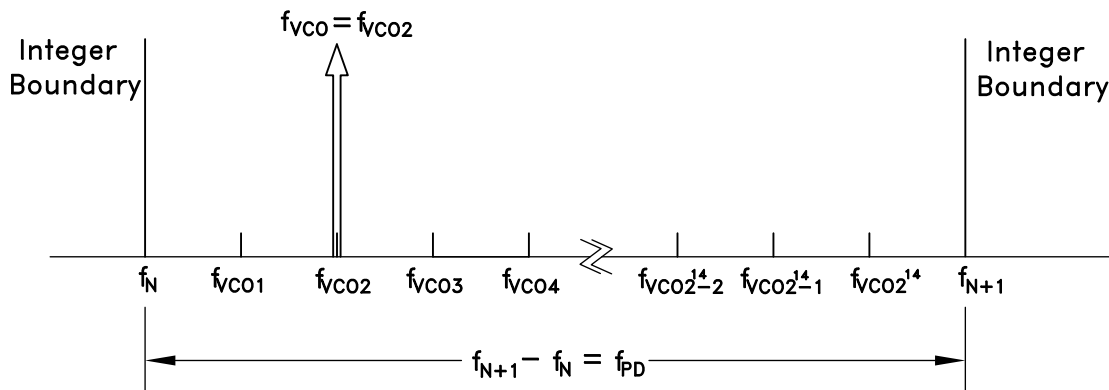

Figure 44. Exact Frequency Tuning
and f_{VCOk} are the channel step frequencies where $0 < k < 2^{24}-1$, As shown in Figure 44.
Some fractional PLLs are able to achieve this by adjusting (shortening) the length of the Phase Accumulator (the denominator or the modulus of the Delta-Sigma modulator) so that the Delta-Sigma modulator phase accumulator repeats at an exact period related to the interval frequency ($f_{VCOk} - f_{VCO(k-1)}$) in Figure 44. Consequently, the shortened accumulator results in more frequent repeating patterns and as a result often leads to spurious emissions at multiples of the repeating pattern period, or at harmonic frequencies of $f_{VCOk} - f_{VCO(k-1)}$. For example, in some applications, these intervals might represent the spacing between radio channels, and the spurious would occur at multiples of the channel spacing.
If it is desirable to have multiple, equally spaced, exact frequency channels that fall within the same interval (ie. $f_N \leq f_{VCOk} < f_{N+1}$) where f_{VCOk} is shown in Figure 44 and $1 \leq k \leq 2^{14}$, it is possible to maintain the same integer-N (Reg 03h) and exact frequency register (Reg 0Ch) settings and only update the fractional register (Reg 04h) setting. The Exact Frequency Channel Mode is possible if (EQ 17) is satisfied for at least two equally spaced adjacent frequency channels, i.e. the channel step size.
To configure the HMC833LP6GE for Exact Frequency Channel Mode, initially and only at the beginning, integer (Reg 03h) and exact frequency (Reg 0Ch) registers need to be programmed for the smallest f_{VCO} frequency (f_{VCO1} in Figure 44), as follows:
1. Calculate and program the integer register setting Reg 03h = $N_{INT} = \text{floor}(f_{VCO1}/f_{PD})$, where f_{VCO1} is shown in Figure 44 and corresponds to minimum channel VCO frequency. Then the lower integer boundary frequency is given by $f_N = N_{INT} \cdot f_{PD}$.
$\text{Reg04h} = N_{FRAC} = \text{ceil} \left(\frac{2^{24}(f_{VCOk} - f_N)}{f_{PD}} \right)$ where $f_N = \text{floor}(f_{VCO1}/f_{PD})$, and f_{VCO1} , as shown in Figure 44, represents the smallest channel VCO frequency that is greater than f_N .
4. To change from channel 1 ($f_{VCO1} = 2800.2$ MHz) to channel 2 ($f_{VCO2} = 2800.3$ MHz), only **Reg 04h** needs to be programmed, as long as all of the desired exact frequencies f_{VCOk} (Figure 44) fall between the same integer-N boundaries ($f_N < f_{VCOk} < f_{N+1}$). In that case